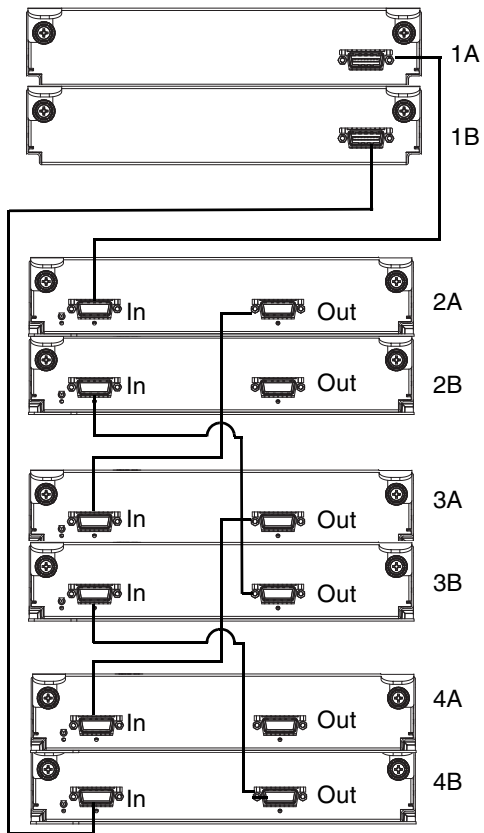

Figure 3 Cabling connections between a dual-controller enclosure and up to three MSA2000 3.5 12-drive enclosures
When connecting multiple drive enclosures, use reverse cabling to ensure the highest level of fault tolerance. Controllers and I/O (expansion) modules are identified by <enclosure-ID><controller-ID>. For example, Figure 3 shows controller 1A connected to I/O module 2A, and the chain of connections continuing down. Controller 1B is connected to the lower module (B) of the last drive enclosure in the chain, with connections moving in the opposite direction.